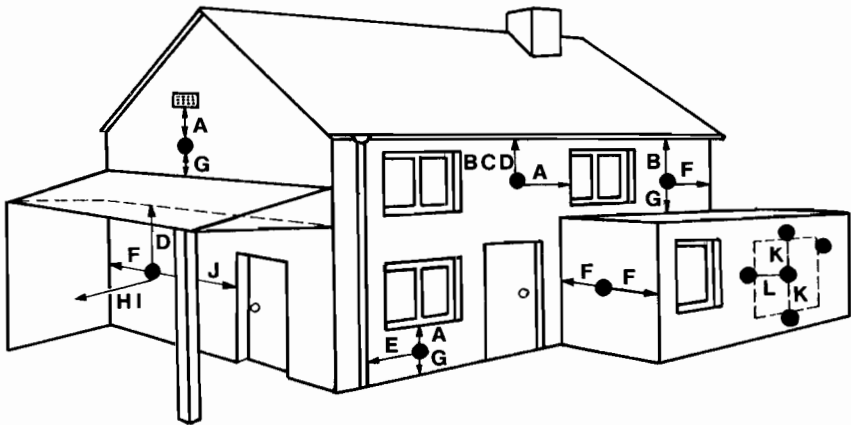

Fig. 4
5.5.1 The flue must be positioned such that the combustion products can disperse freely at all times – refer to Fig. 4.